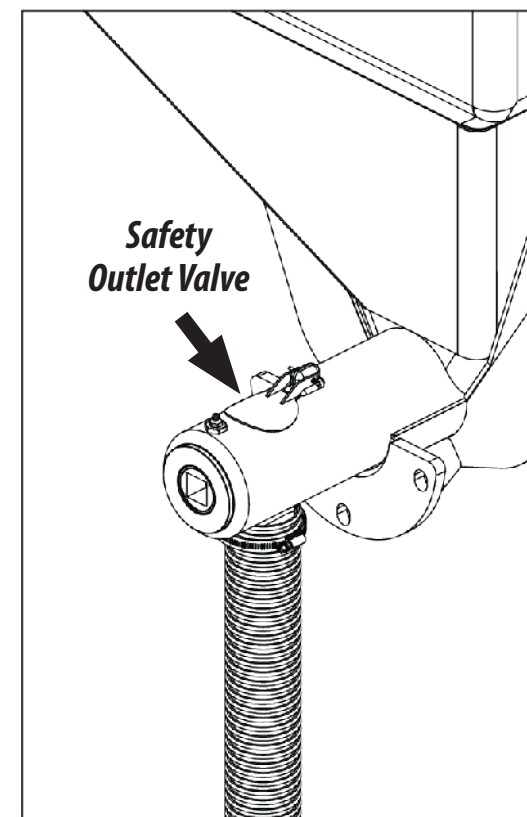

Figure 14
- 2- The individual high-pressure flow spreader system is equipped with a safety outlet valve, so if the hose is stopped up, when the fertilizer is being dispensed, then it will begin to be released through this safety outlet valve, thereby preventing any damage to the system, **as shown in figure 14.**